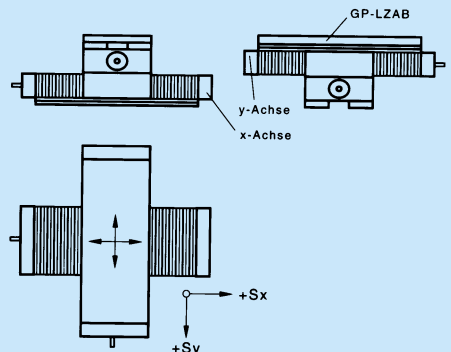

Fig. 5b
- **Assembly type KU** (Fig. 5b)